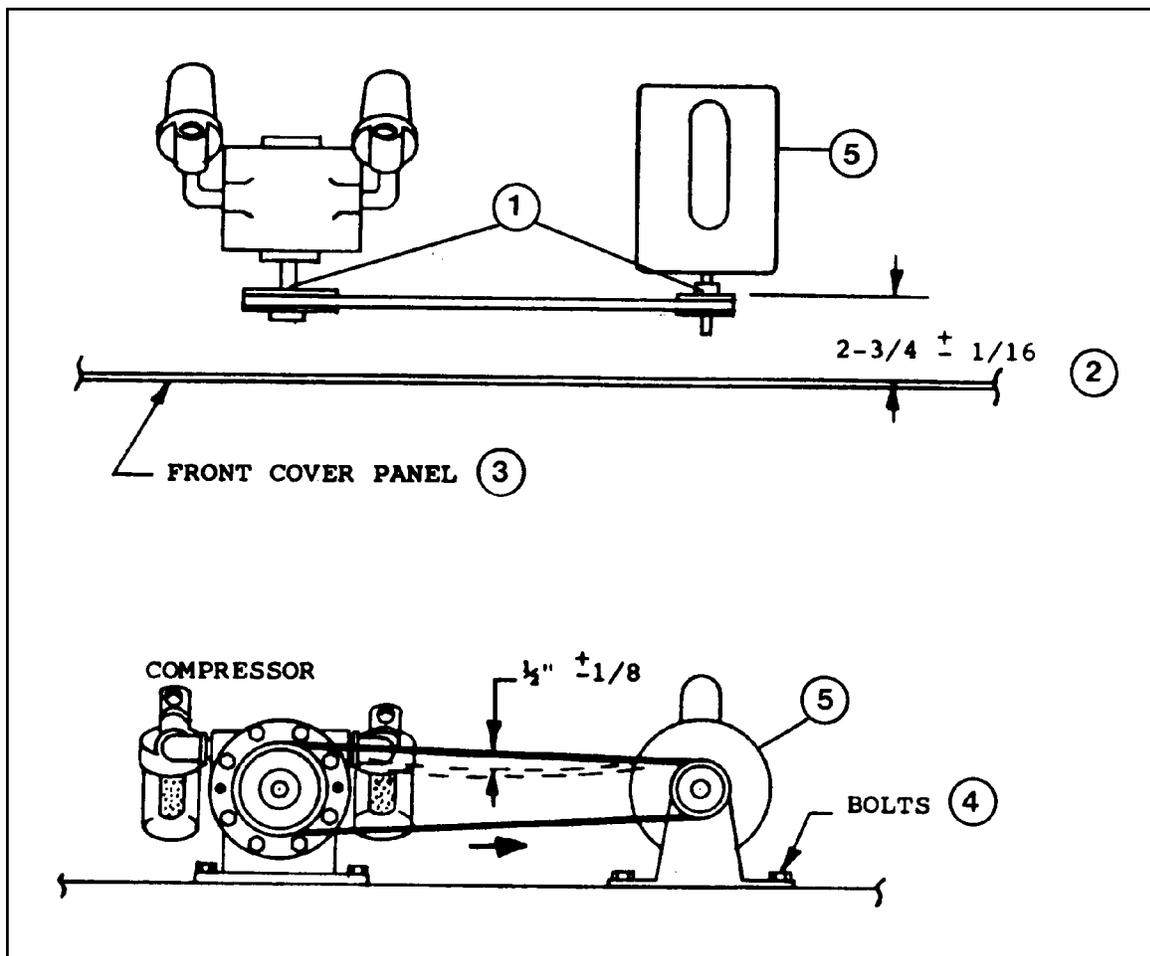

Figure 59 - Vacuum Pump Pulley Alignment and Belt Tension
2. Loosen set screws (item 1, Figure 59) in motor and pump pulleys.
3. Align pulleys to a dimension (2) of $2\text{-}3/4\text{''} \pm 1/16\text{''}$ between the front cover panel (3) and the inside face of the pulley. Tighten the set screws (1).
4. Loosen motor mounting bolts (4) and adjust pump motor (5) to allow $1/2\text{''} \pm 1/8\text{''}$ deflection of the belt when approximately one pound of force is applied to the belt midway between the two pulleys. Tighten the motor mounting bolts (4).